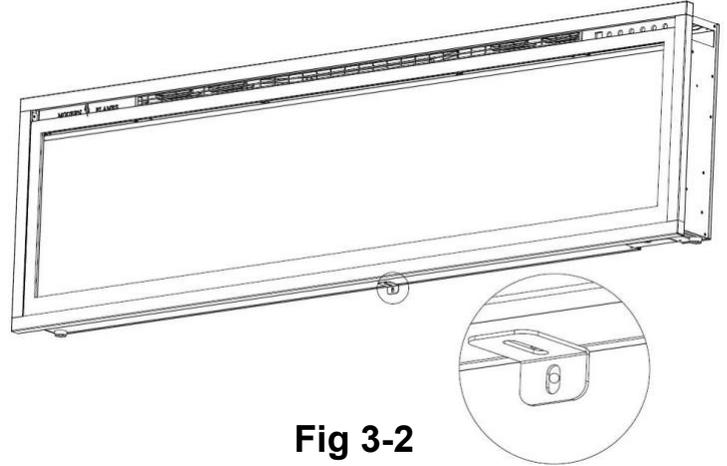

Fig 3-2
**B.** Using the screw previously removed, attached the L-bracket (O) (supplied) to the bottom of the fireplace box. (Fig 3-2)